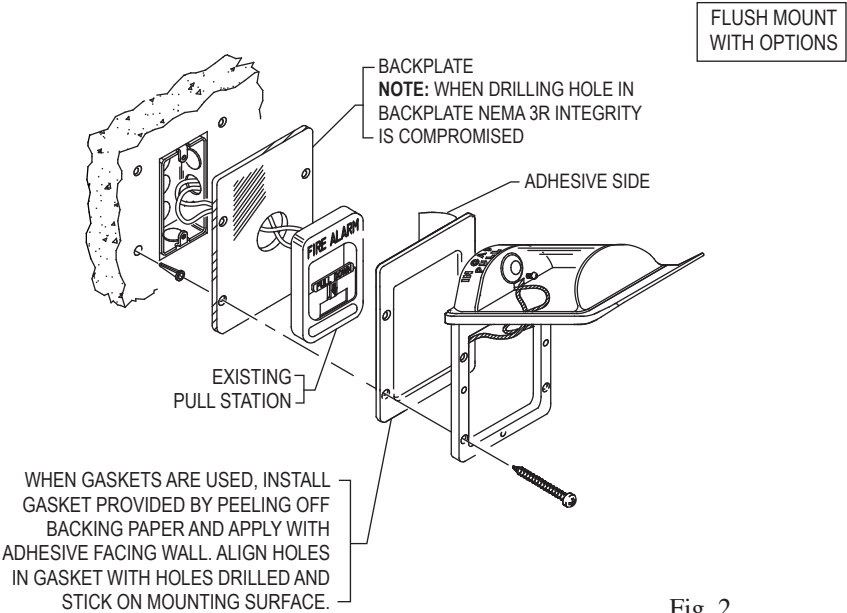

Fig. 2
2. If using STI-1280 backplate, refer to Fig. 2 and 3 for install instructions depending on your application. **NOTE:** When drilling hole in backplate NEMA 3R integrity is compromised.
3. Align frame and put screws through frame holes, into anchors and tighten (if used, through spacer, gaskets and optional backplate). For STI-1200, continue to Step 8. NOTE: When using STI-3100 spacer, be sure to install conduit knockout, any additional ventilation and gaskets before you tighten to the wall. When using conduit gasket STI-3004, place gasket around conduit in proper location and install the spacer. For added protection a bead of silicone may be applied to conduit fitting and between STI-1280 backplate and wall (Fig. 3A). Refer to exploded view of flush and surface mount installation options Fig. 2 and 3. Weather Stopper, STI-3150, IP equivalency may vary depending on selection of conduit inserts used.